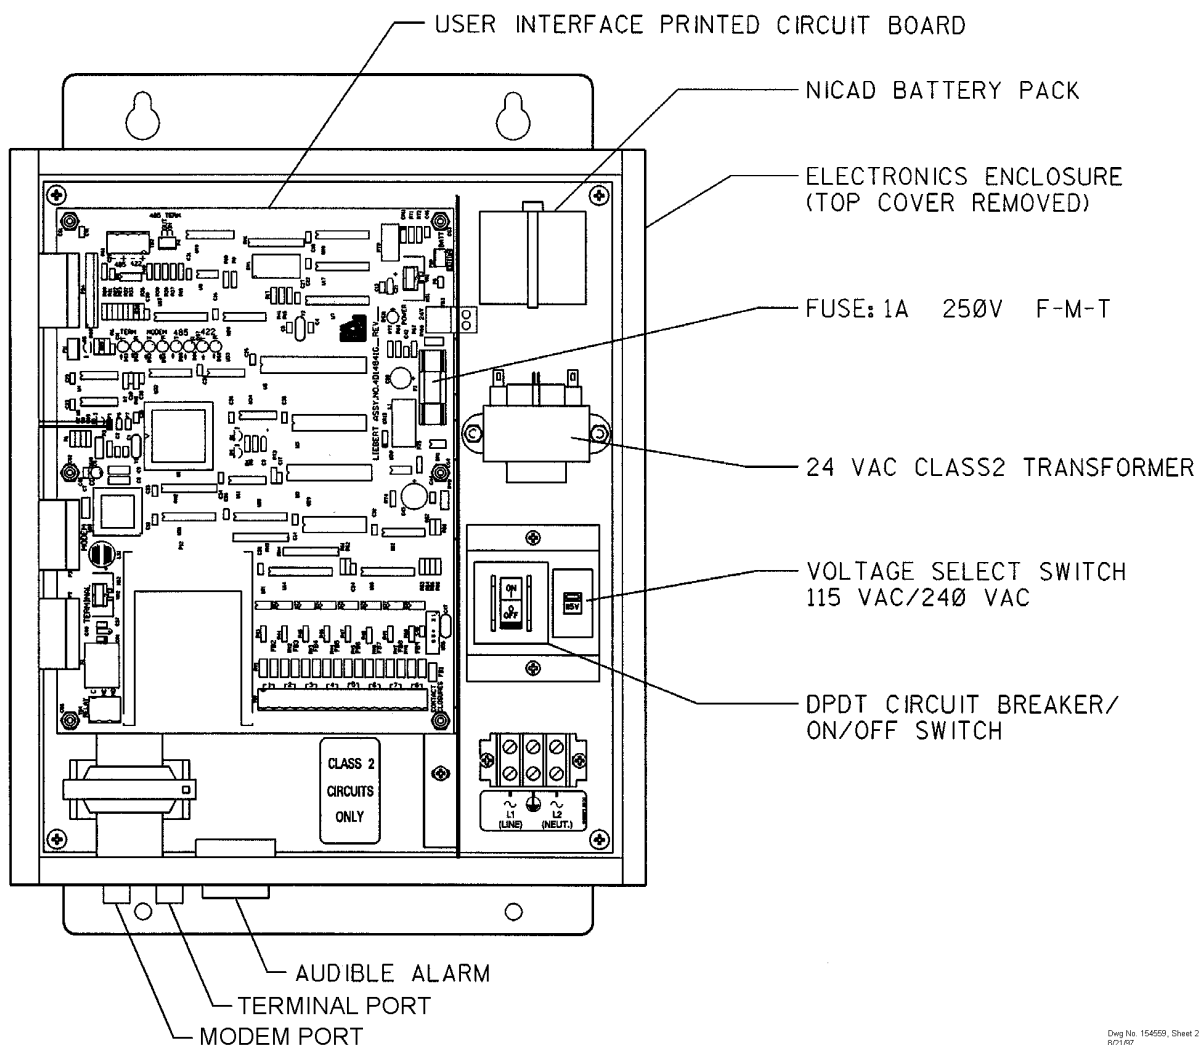

Figure 1. Component Arrangement
The RCM8 has a power ON/OFF switch located inside the enclosure. Refer to Figure 1 below. When wiring the dry contact connections, this switch should be in the OFF position. For normal operation, the switch should be in the ON position.
Refer to Figure 1 Component Arrangement, and Figure 3 Physical Connections and DIP Switches.
- **Terminal Baud Rate (7)—1200 or 2400 baud selectable. 7 data bits, even parity, 1 stop bit are fixed.**
- **Common Alarm Relay (Silence/Reset) (8)**—The common alarm relay energizes with any input alarm or received alarm. If Silence Reset is ON, the relay de-energizes when the audible alarm is silenced. If OFF, the common alarm relay remains energized until the input alarm is cleared.
2. Make the following physical connections as applicable. Refer to Figures 1 and 3.